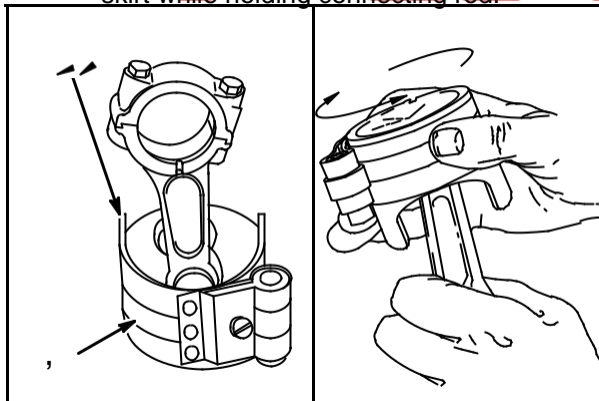

Fig. 2
Oil piston rings and piston skirt. Compress rings with Piston Ring Compressor #19070 (2), **Fig. 2**.